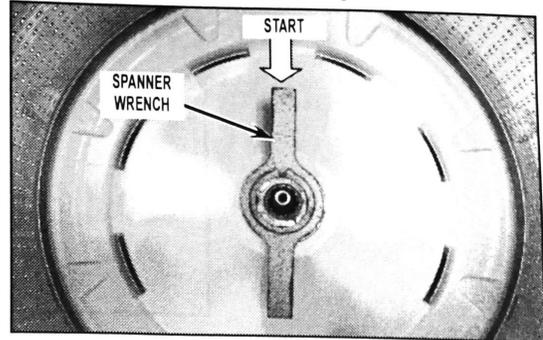

FIGURE 8
10. Place spanner wrench on spanner nut. Mark starting location of spanner wrench. See *Figure 8*.